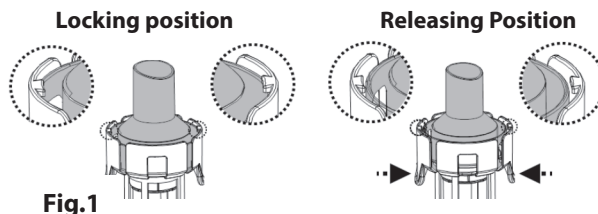

Fig.1
1. Press side tabs simultaneously and remove the suction nozzle from the tube collar. **(Fig.1)**